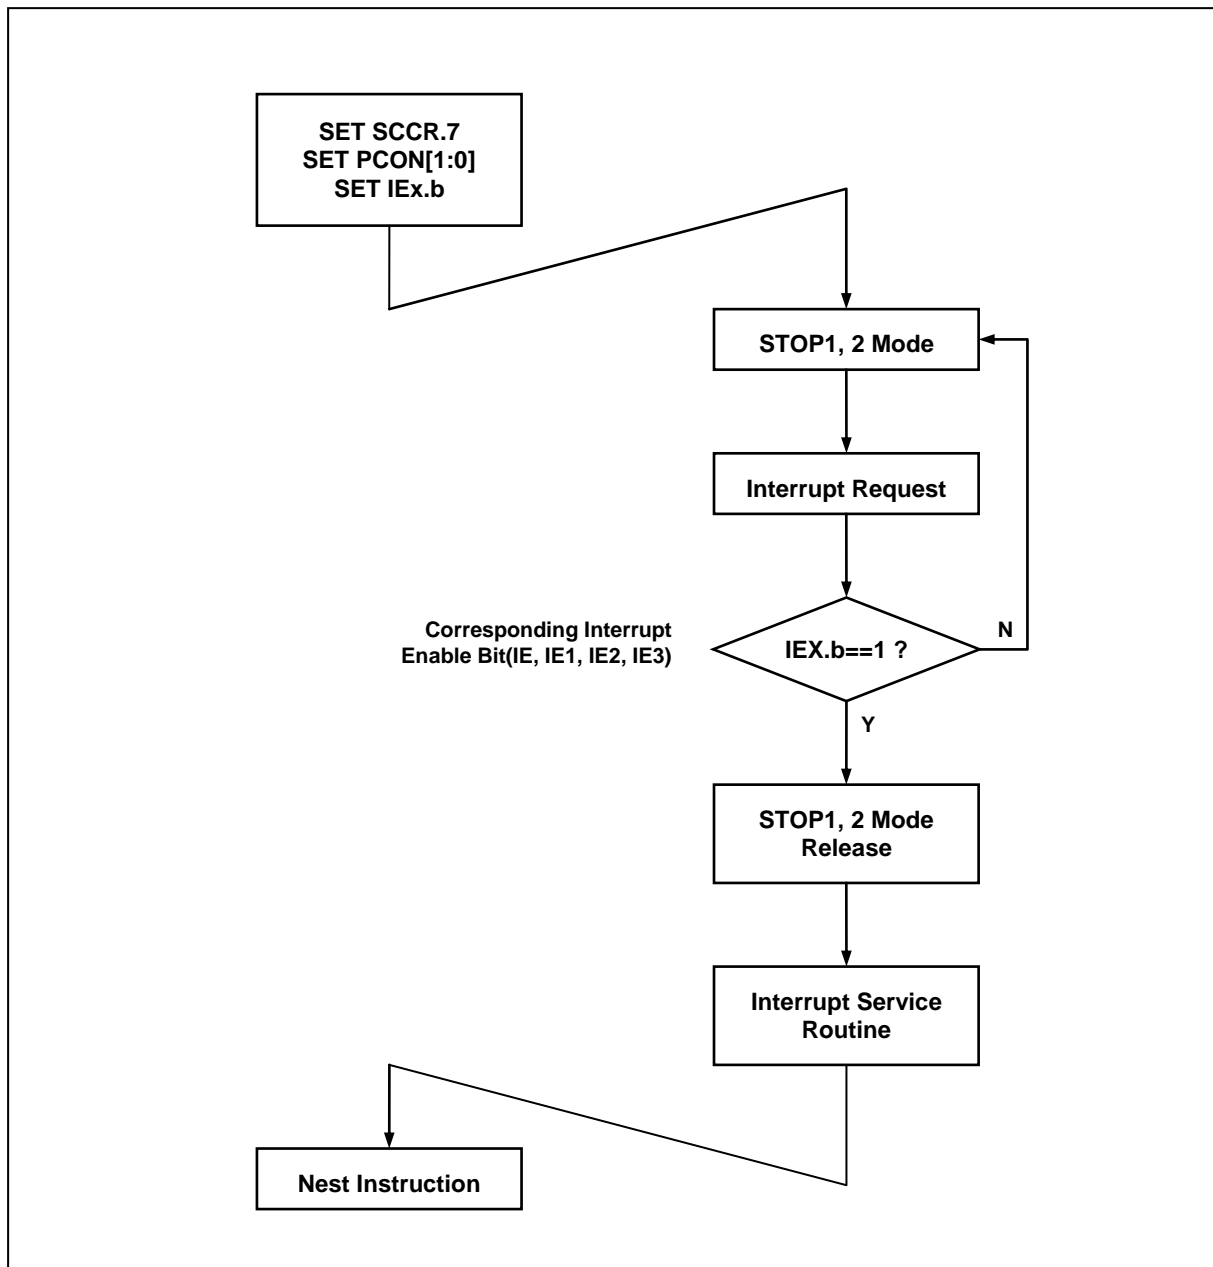

Figure 17.3 STOP1, 2 Mode Release Flow
After STOP1, 2 mode is released, the operation begins according to content of related interrupt register just before STOP1, 2 mode start (Figure 17.3). Interrupt Enable Flag of All (EA) of IE should be set to `1`. Released by only interrupt which each interrupt enable flag = `1`, and jump to the relevant interrupt service routine.